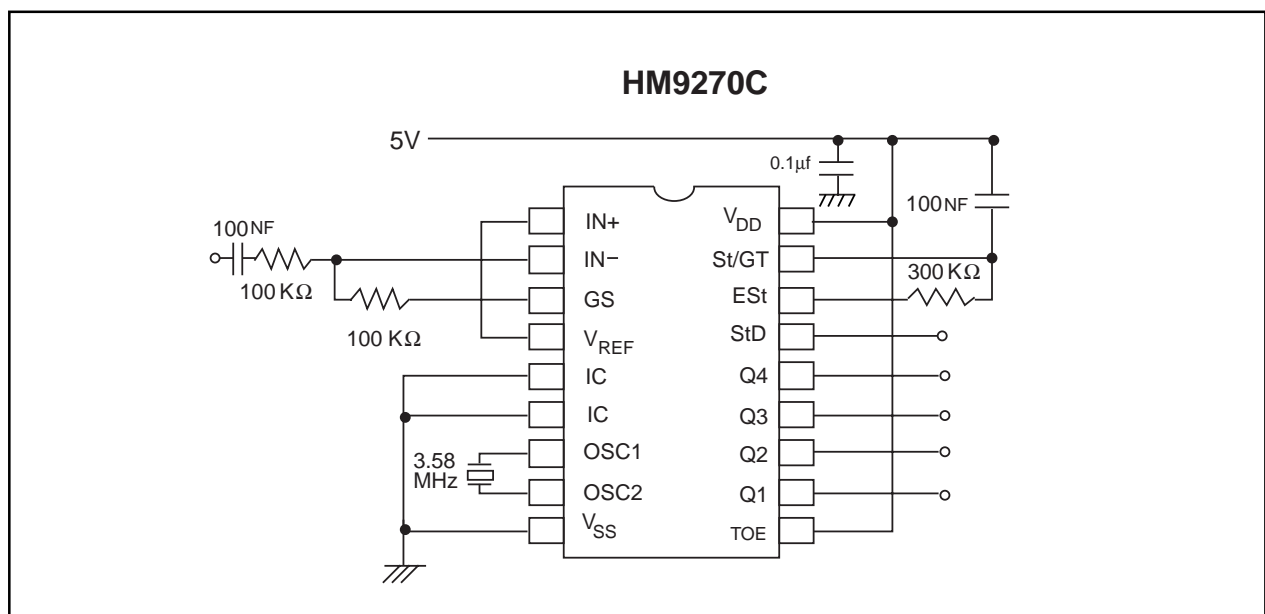
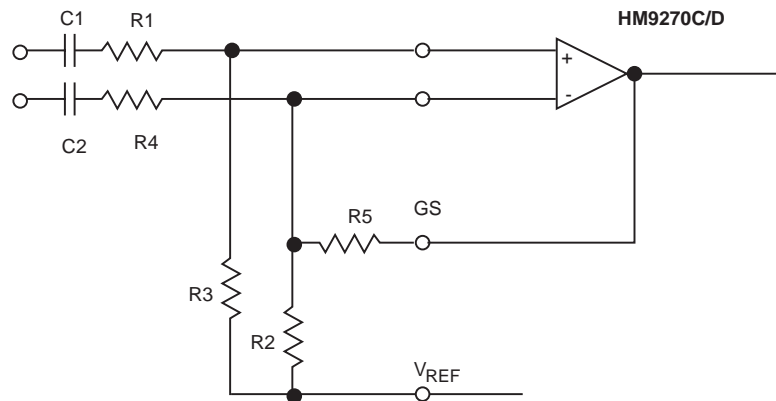

FIGURE 2. SINGLE ENDED INPUT CONFIGURATION
FIGURE 9. DIFFERENTIAL INPUT CONFIGURATION
All voltages referenced to V_{SS} unless otherwise noted. $V_{DD}=5.0V$, $V_{SS}=0V$, $T_A=25^\circ C$, $F_{CLK}=3.579545$ MNz, using test circuit of figure 2.
The input arrangement of the HM9270C/D provides a differential-input operational amplifier as well as a bias source (V_{REF}) which is used to bias the inputs at mid-rail. Provision is made for connection of a feedback resistor to the op-amp output (GS) for adjustment of gain. In a single-ended configuration, the input pins are connected as shown in Fig. 2 with the op-amp connected for unity gain and V_{REF} biasing the input at $1/2V_{DD}$. Fig. 9 shows the differential configuration, which permits the adjustment of gain with the feedback resistor R5.